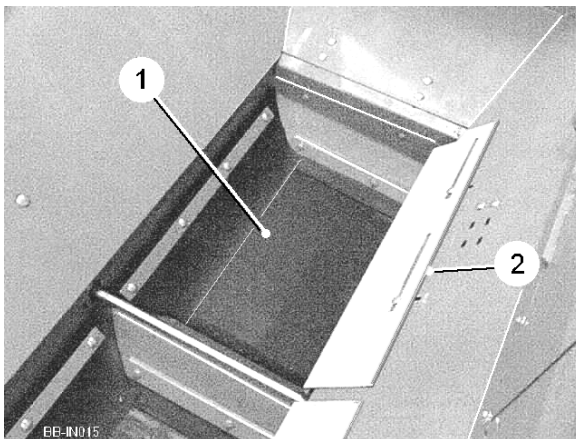
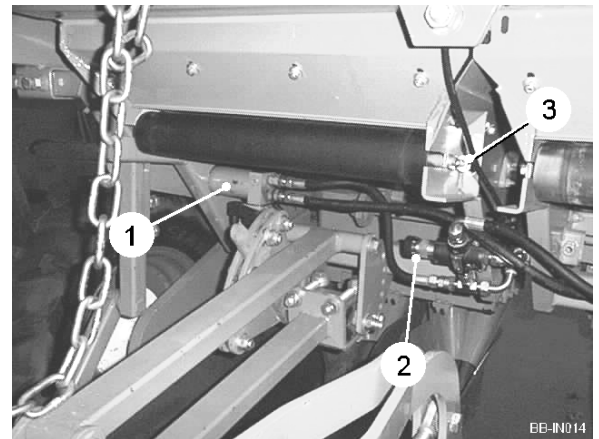

Fig 7
Fig 8
When planting, check that the flow of potatoes from the hopper to the feeding cups is satisfactory and that no 'bridging' occurs. The size of gap between the hopper and the feed belts (item 1, figure 7) can be altered by adjusting the regulator plates (item 2, figure 7).
The feed belts (item 1, figure 7) convey the seed potatoes from the hopper to the feeding pockets. Each feed belt is driven by a hydraulic motor (item 1, figure 8). The speed of the belts can be varied by turning the flow divider knob (item 2, figure 8). The higher the number the quicker the belt will run. To create a positive drive, spring loaded tensioners (item 3, figure 8) maintain constant tension on the belt. To alter the tension turn the adjuster nuts. Ensure both sides are adjusted evenly.